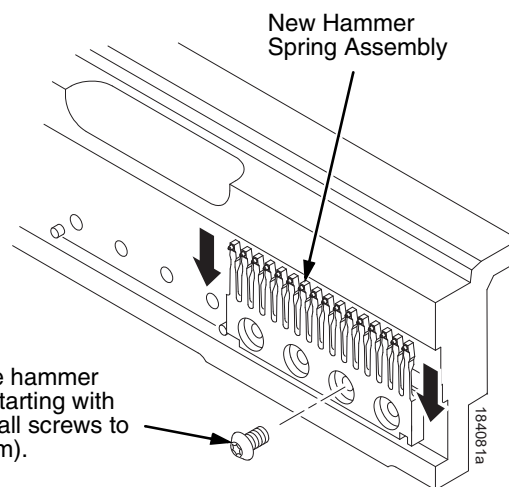

Figure 25. Hammer Spring Assembly, Installation
3. Handling the hammer spring assembly by the mounting base only, carefully position it on the hammer bank mounting pins. then gently press the mounting base down against the alignment pins. (See Figure 25, page 299.)
4. Continue pressing down on the mounting base of the new hammer spring assembly as you install the mounting screws from the replacement kit. Using a Torx T-10 bit adapter, and starting with the inner screws, torque each screw to 14 inch-pounds (1.58 N•m). (See Figure 25.)